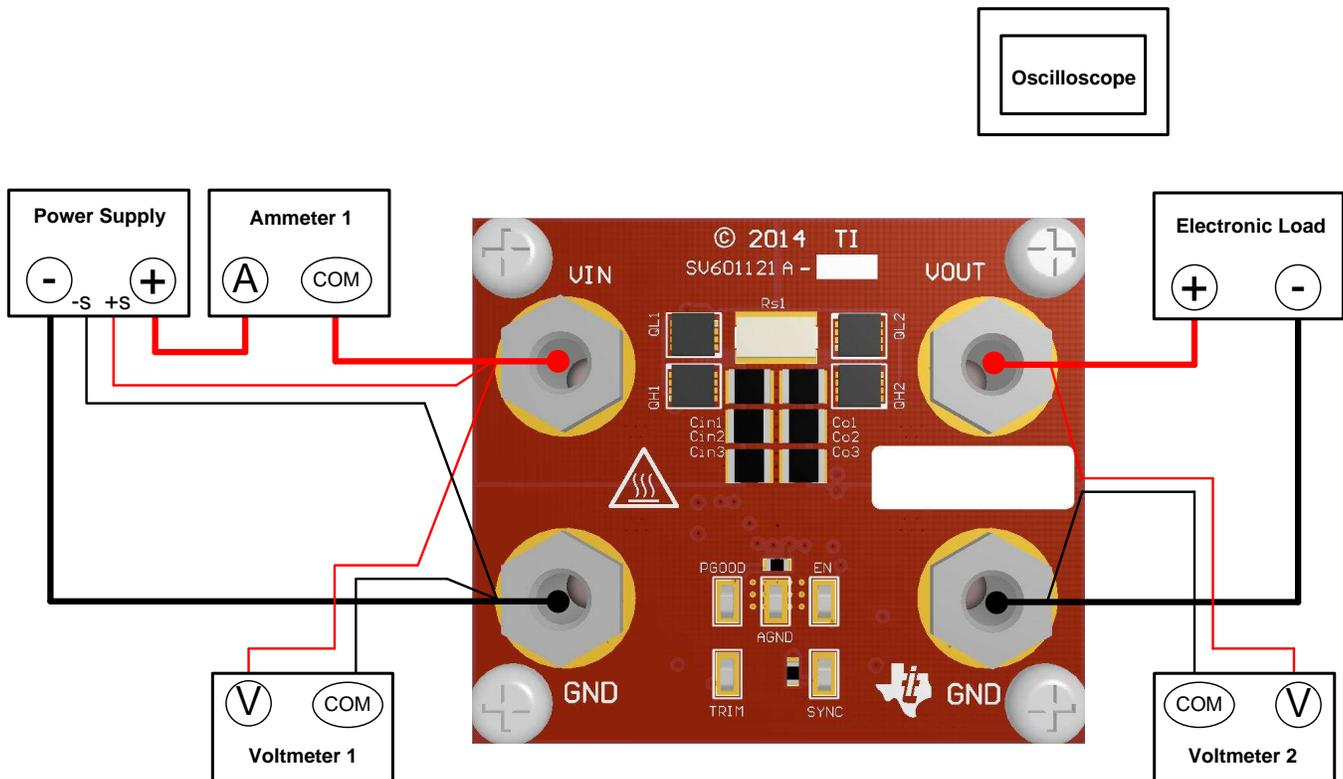

Figure 4. Test Setup Connection Diagram
Figure 4 shows the recommended test setup to evaluate the LM5175EVM-HD. Working at an ESD workstation, make sure that any wrist straps, boot straps or mats are connected referencing the user to earth ground before power is applied to the EVM.
- Prior to connecting the DC input source, it is advisable to limit the source current to 10 A maximum. Make sure the input source is initially set to 0 V and connected to VIN and GND banana connections as shown in Figure 4. While the on-board hybrid electrolytic capacitor provides input circuit damping, an additional high-ESR input capacitor may be required if long input lines are used.